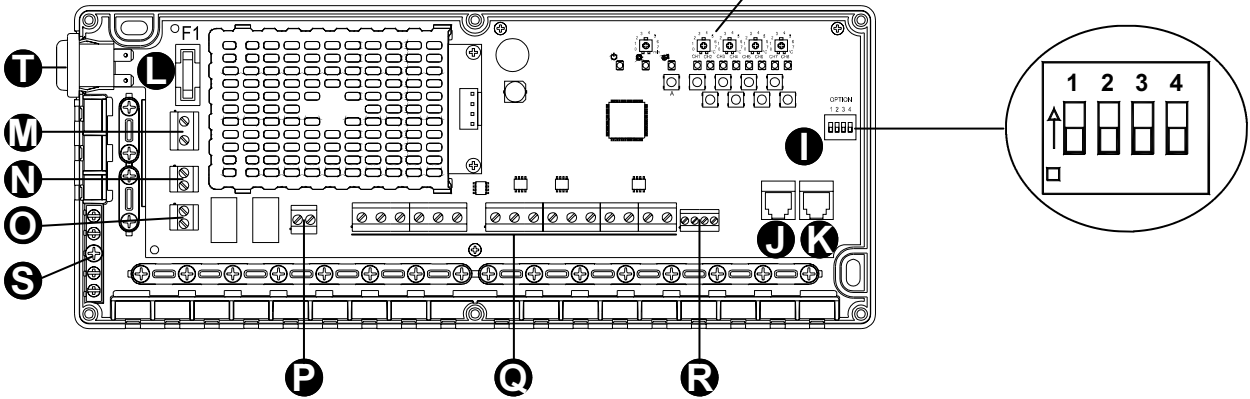

Fig. 1: Internal view of components.
Fuse F1 is blown.	Disconnect power supply, check electrical wirings and the relevant connected devices, then replace fuse F1 (L in Fig. 1).
OPTION DIP-SWITCH (1 in figure 1)
the heating mode (in the cooling mode Tcomfort + fixed reduction value). The 8-channels module has 4 trimmers, indicated by ⑥ in Figure 1, by means of which it is possible to adjust the fixed reduction value between 0 and 7 °C.